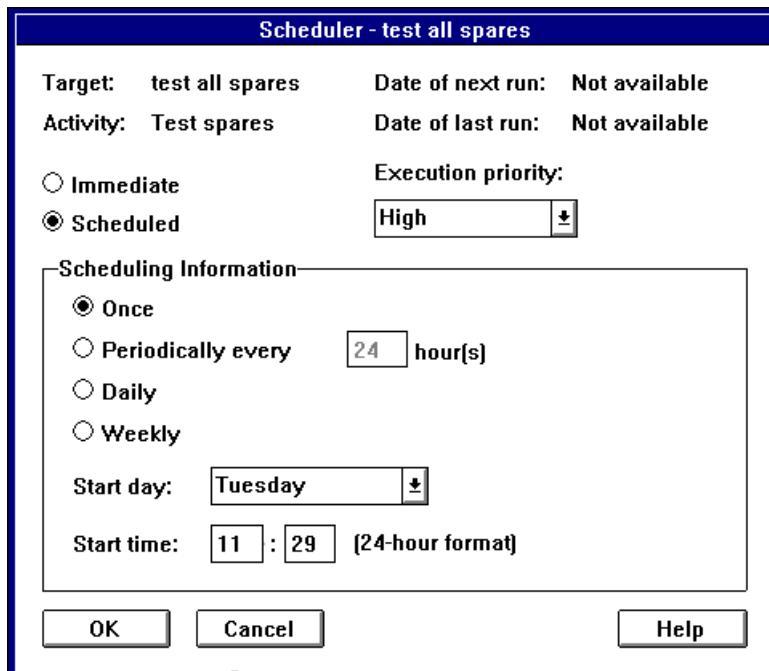

Figure 11-1. Scheduler Dialog Box
- 1 Define a new scheduled operation: Reconstruct an Array, Verify Integrity of Array, or Test All Spares. The Scheduler dialog box appears, as shown in Figure 11-1.
To view more detailed information about the activity, double-click the activity icon. The Scheduler dialog box appears, as shown in Figure 11-1. Click **Cancel** to close the dialog box.